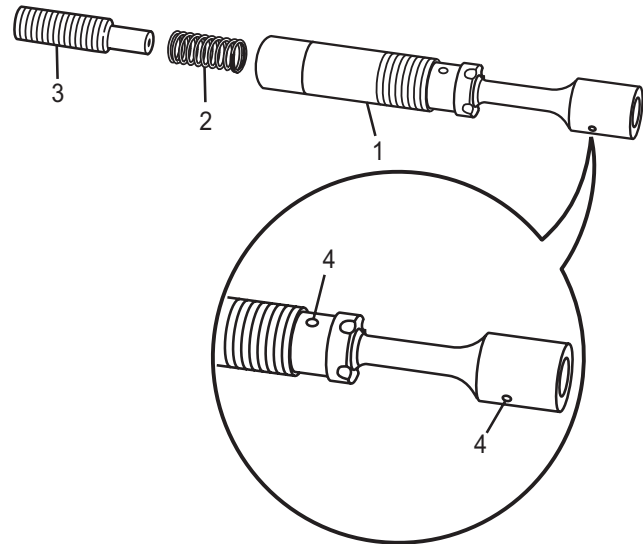

Figure 31
- b. Examine the large spool (Figure 31, Item 1), spring (Figure 31, Item 2), and small spool (Figure 31, Item 3) for score marks and damage. If any component is damaged or scored, the inlet unloader valve must be replaced as a unit.
- c. Check for contamination by blowing through each orifice (Figure 31, Item 4) located in the large spool. These orifices must be open or the inlet unloader valve will not function properly. Clean all components thoroughly with WD-40 or an equivalent product. Also clean the cavity in the inlet unloader valve housing.